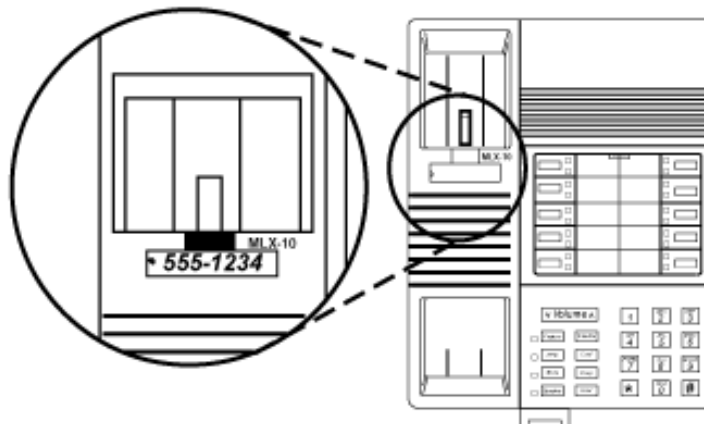

Figure 3-4. Labeling the Extension
2. Type or write the assigned extension number on the card. See Figure 3-4.